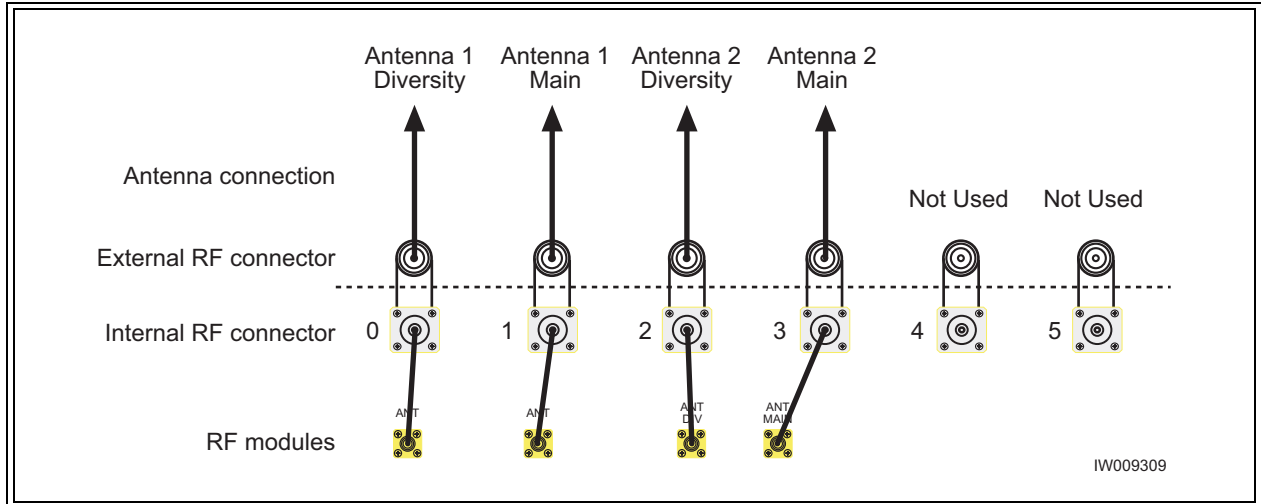

Figure 2-29 Antenna Cabling for S42 Configuration
- Connect your antennas as shown in Figure 2-29.